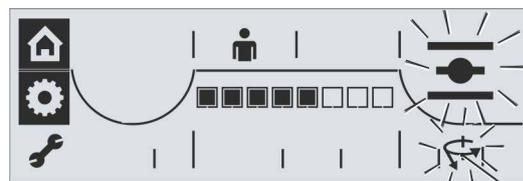

Fig. 3: Tripping torque in end position OPEN
Proceed accordingly to set tripping torque in end position OPEN. Select the symbol for tripping torque in end position OPEN (fig. 3, item 1) and continue from step 3 as described above.